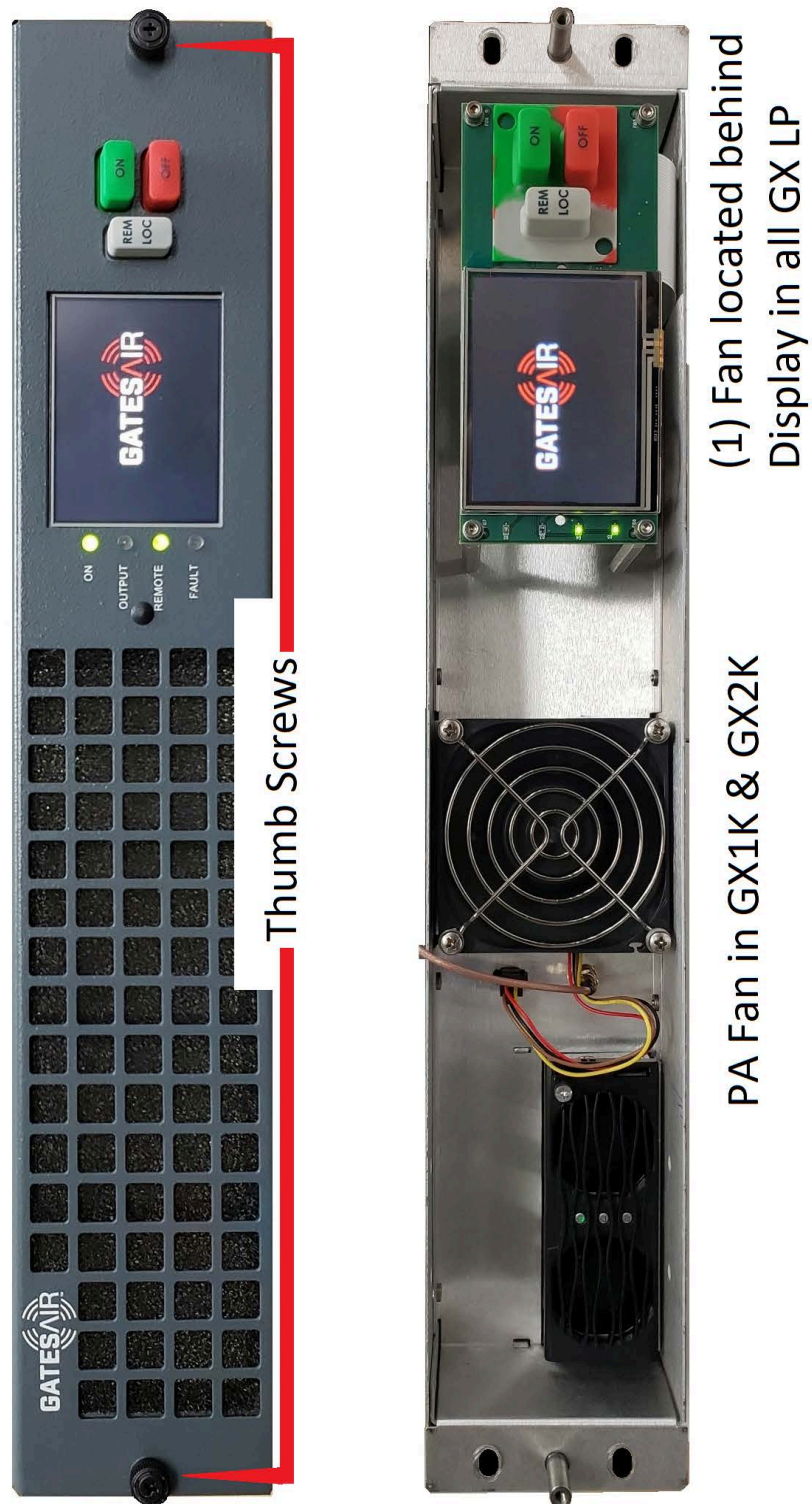

Figure 6-4 GX with Front Cover Removed
- Refer to **Figure 6-4** on the next page.